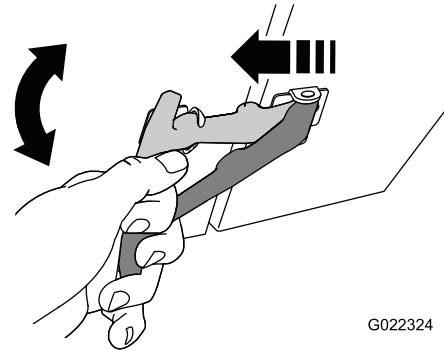

Figure 13
4. Close the engine cowl and secure the cowl latches (Figure 13).